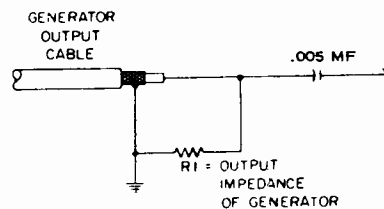

Figure 10 - Generator Cable Termination
*Generators* - Except where otherwise noted, all signal generating equipment should be terminated as shown in Figure 10. Connect the signal cable ground near the ground of the stage where the signal is injected.